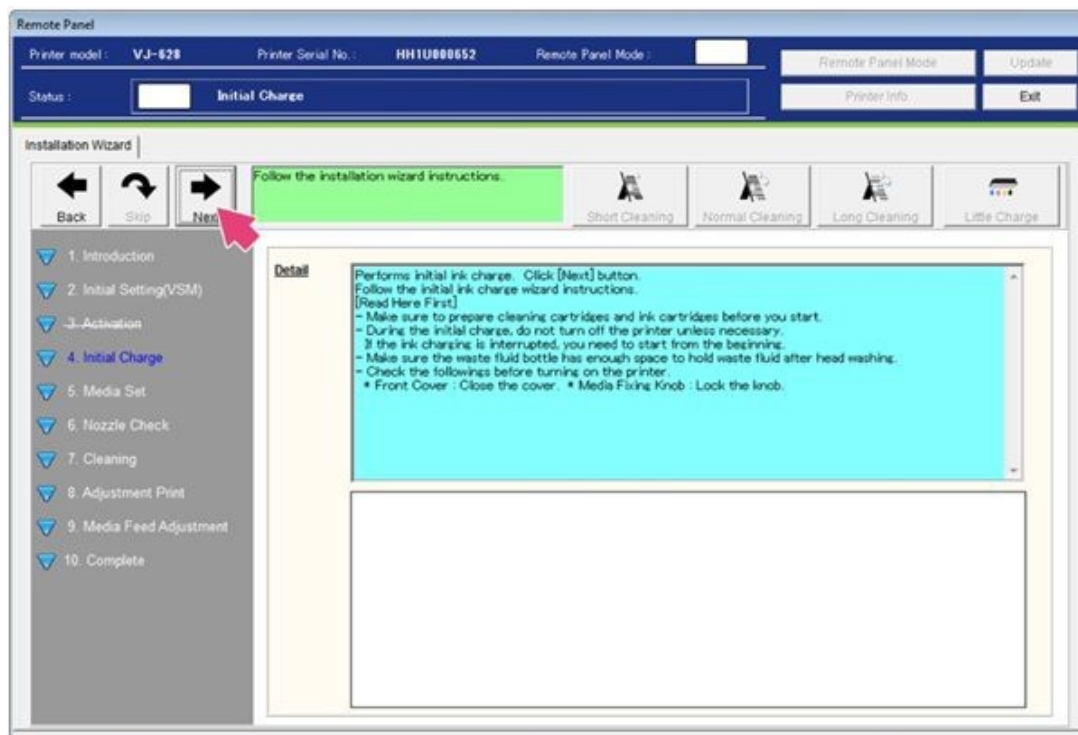

Figure 51
38. You will now be guided through the initial ink charge for the printer. Before you begin, make sure to prepare cleaning cartridges and ink cartridges for use. During the initial ink charge, do not turn off the printer unless necessary or you will need to restart the process. Close the printer's front cover, the media fixing knob should be locked and the waste tank should be empty. (Waste tank drain tube is located on the side of the printer.) When everything has been prepared, select **Next** to continue. See Figure 51.